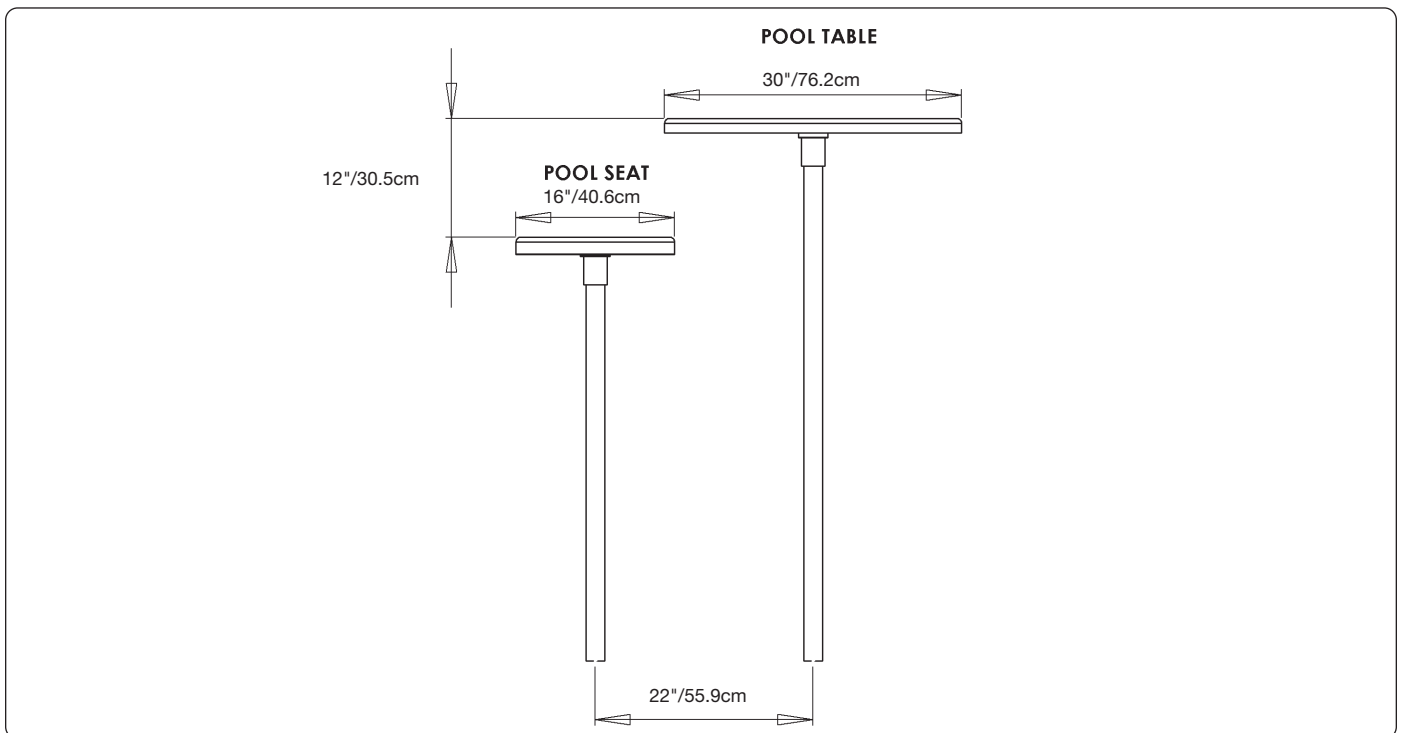

Figure 8: Pool/Spa Table & Seat Recommended Placement Diagram
2. Locate a proper installation location within the pool or spa. NOTE: When installing with a Pool/Spa Table, See Figure 8 for suggested placement.